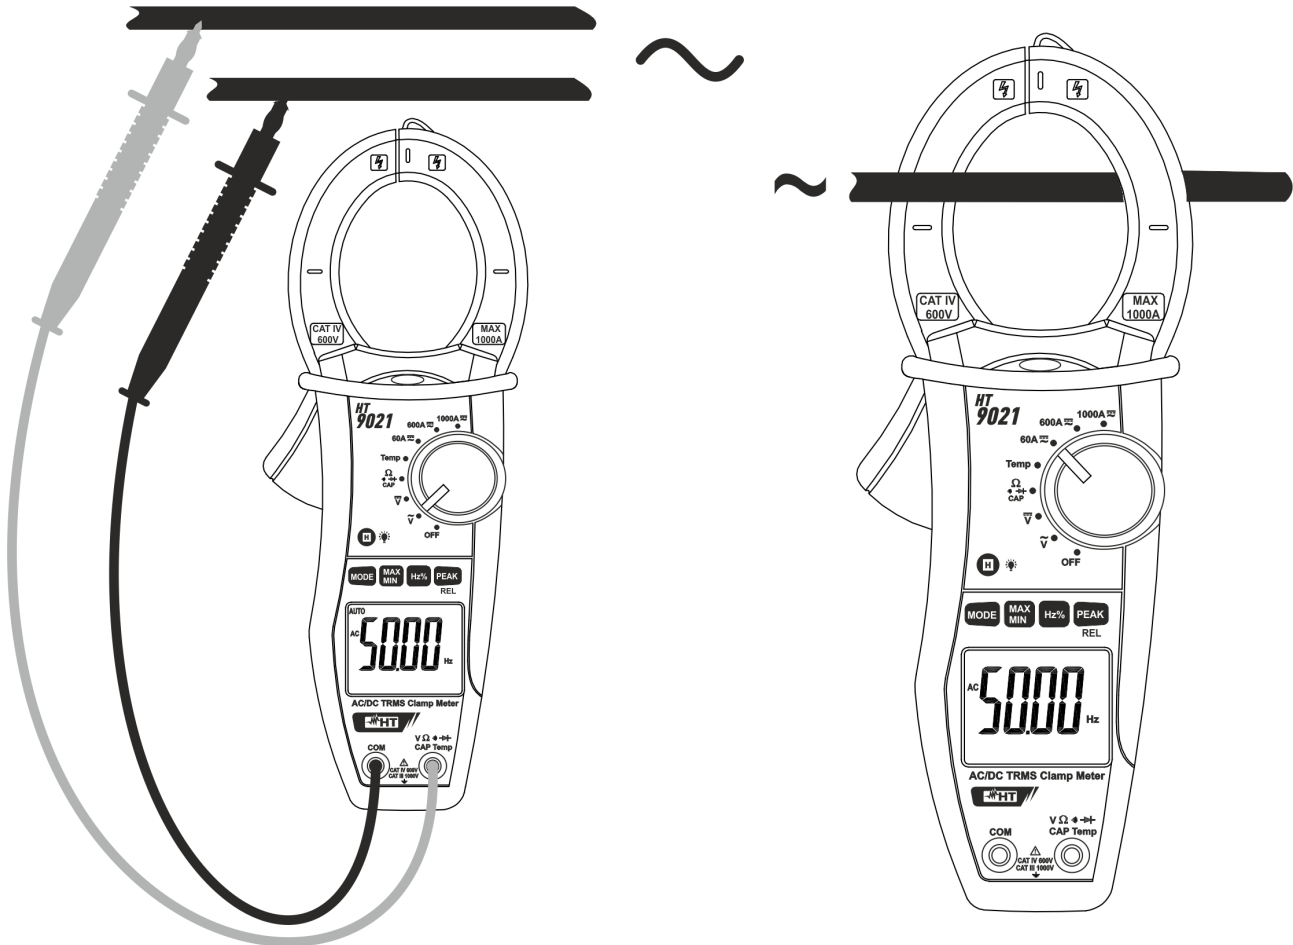

Fig. 10: Taking frequency and duty cycle measurements
3. Insert the red test lead plug into **VΩ** jack and the black test lead plug into **COM** jack (see Fig. 10 – left side) for frequency measurement with test leads. Open the clamp and put the conductor to be tested in the middle of the clamp jaw (see Fig. 10 – right side) for frequency measurements with jaws, then reading will be displayed. Bargraph is disabled in frequency and duty cycle test